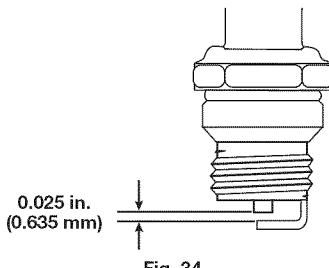

Fig. 34
- Stop the engine and allow it to cool. Remove the six (6) screws on the back of the engine cover with a Flat-head or T-25 Torx screwdriver (Fig. 34).
- Replace cracked, fouled or dirty spark plug. Set the air gap at **.025 in. (0.635 mm)** using a feeler gauge (Fig. 34).